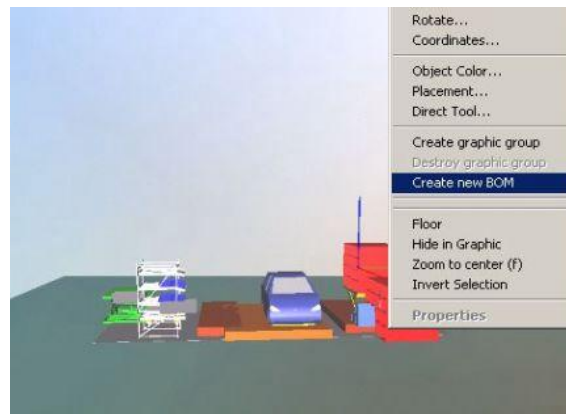
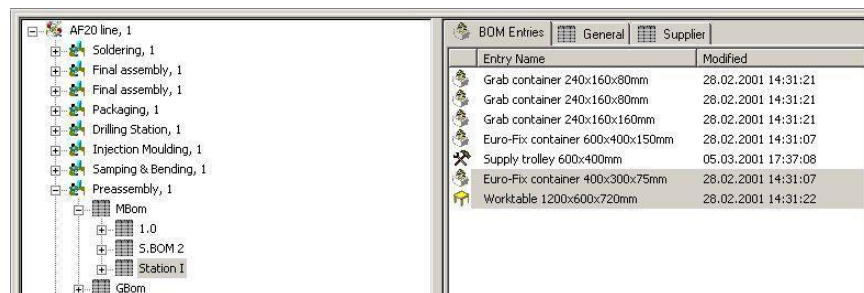
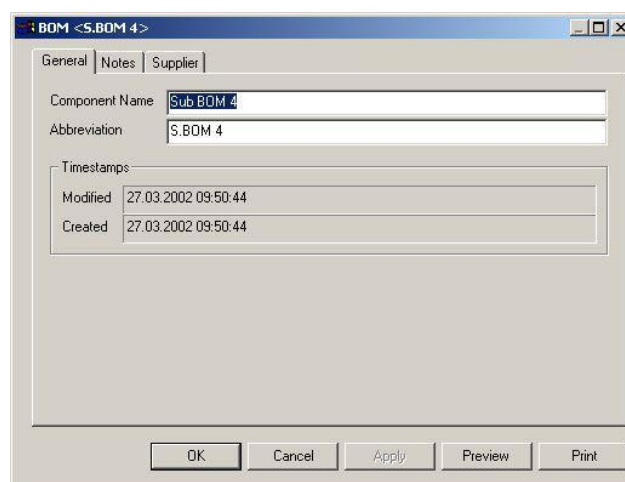

Figure 89: Creating New Bills of Materials: Two Selected Objects
Figure 90: Bill of Materials Structure Station 1 - Table
Figure 91: Properties Dialog: Create New BOM
In the case of selected objects, you can call this function in the Graphic menu or in the right mouse button context menu. *Please refer to the Figure 89.*
In the graphic above, there are two selected objects (*Please refer to the Figure 89*) for which a new bill of materials is to be created. Until now, these two objects have been assigned to the **bill of materials for station 1 table**. *Please refer to the Figure 90.*
- 1) Click **Create new BOM** (*Please refer to the Figure 89*) The **Properties** dialog will open. There you can specify the new bill of materials. *Please refer to the Figure 91.*